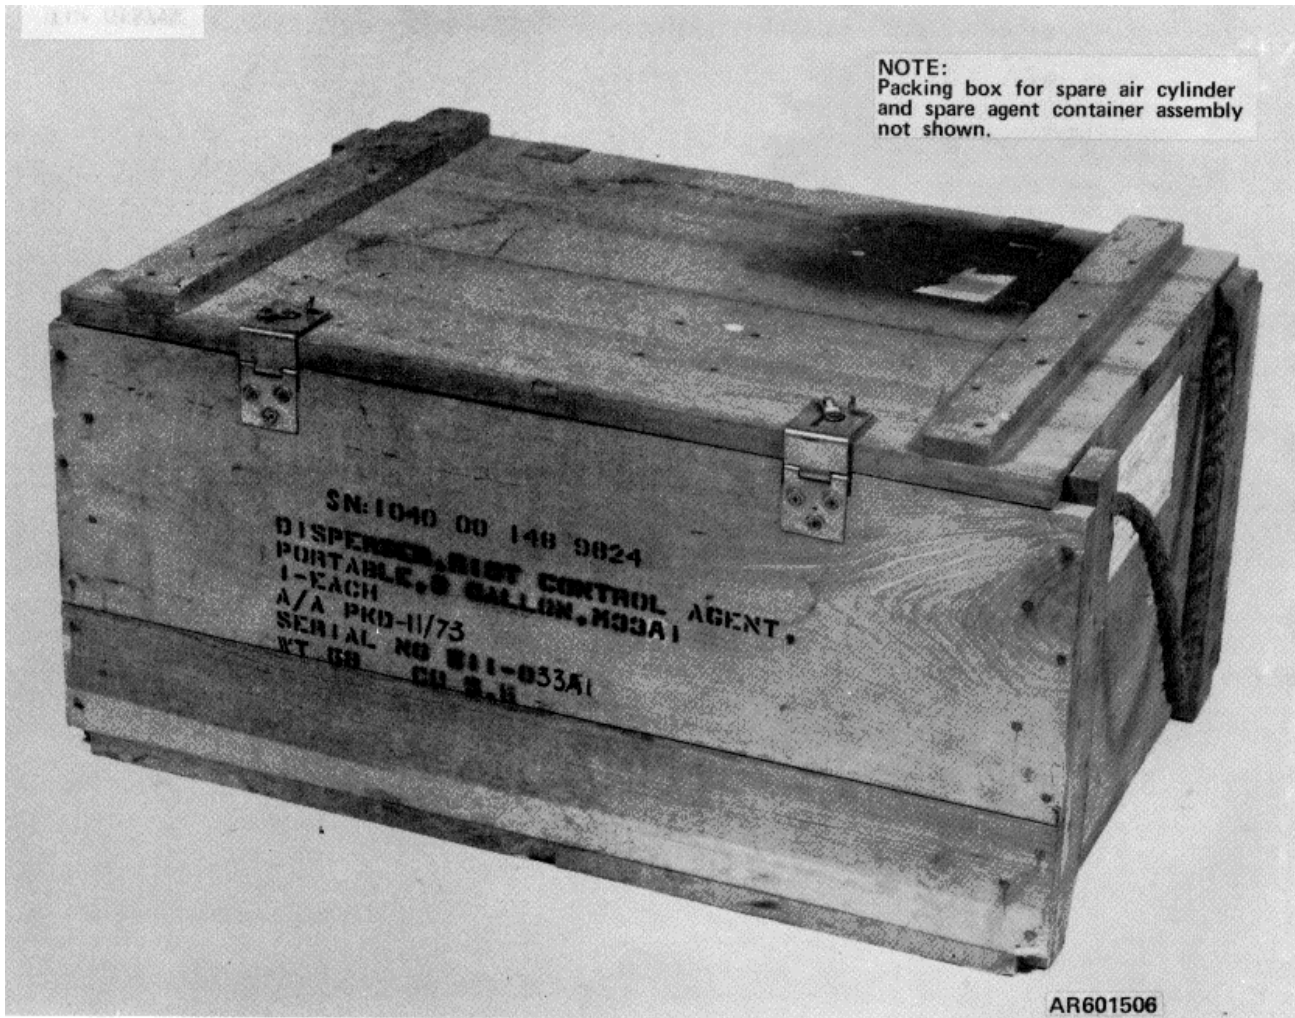

Figure 4-1. Dispenser Pack Chest
a. *Dispenser.* Each dispenser is packed completely inert in two reusable packing chests (fig. 4-1). One box contains the complete dispenser assembly, multijet spray unit, check valve assembly, static strap, clamp, cam